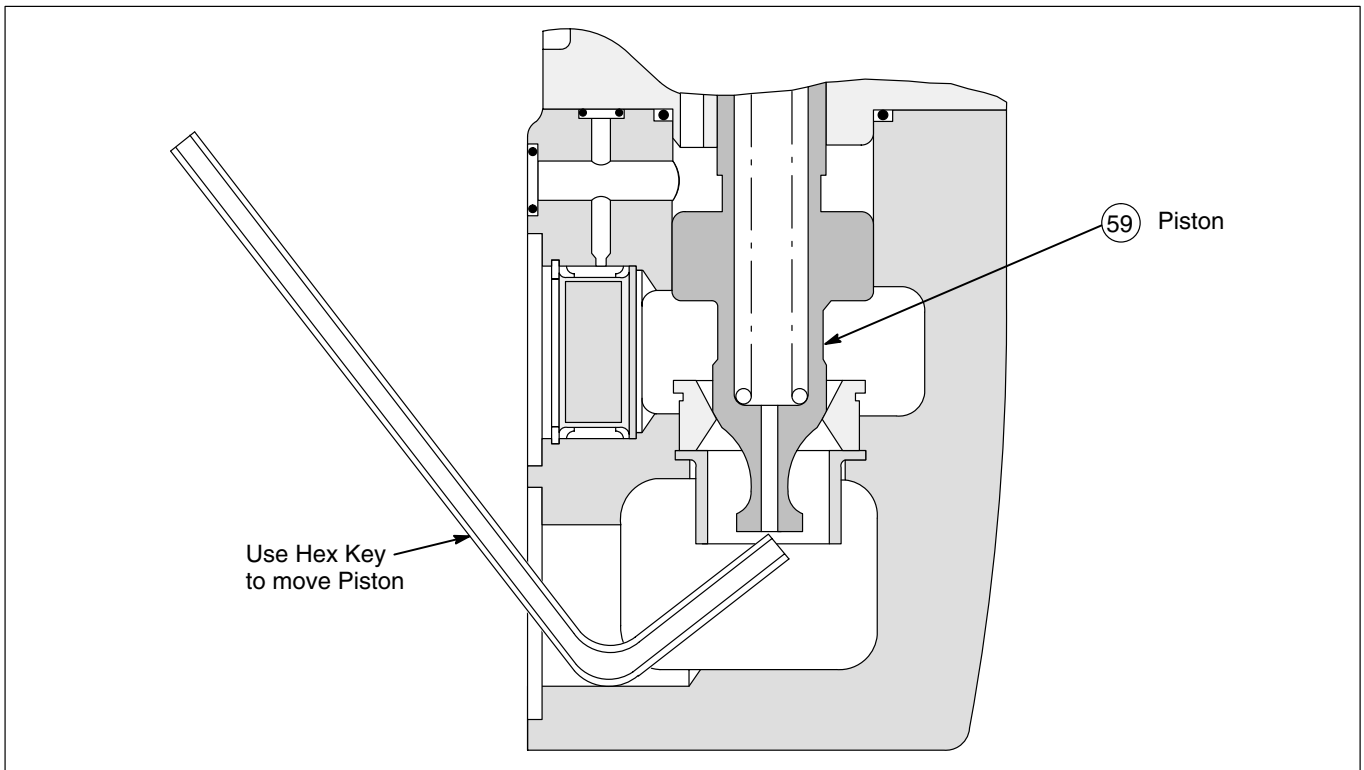

Figure 4. Check of main piston for bind.
3. If rollpin (69) was removed, make sure the mounting surface is flat before installation of a new rollpin.
4. Install plugs (67, 66, and 65) into body (71). Plug (67) exists on the -S6 models only. Use new O-Ring (68) on plug (67).
5. Install O-Ring (64), filter screen (63) and retaining ring (62) into body (71).
6. Install parts (59) through (54). Torque screws (54) hand tight, then use a hex key to move piston (59) within the valve (see Figure 4). Piston (59) should not stick or show evidence of bind. Cross torque screws (54) to 112 lbf. in., (12.6 N.m) maximum. Check the piston again to see if a bind occurs.
1. Before mounting the assembled valve for test, manually move piston (59, Figure 4) to full stroke with a hex wrench or similar tool. If piston (5) binds refer to paragraph VI, step E.12 and paragraph VI, step F.6.